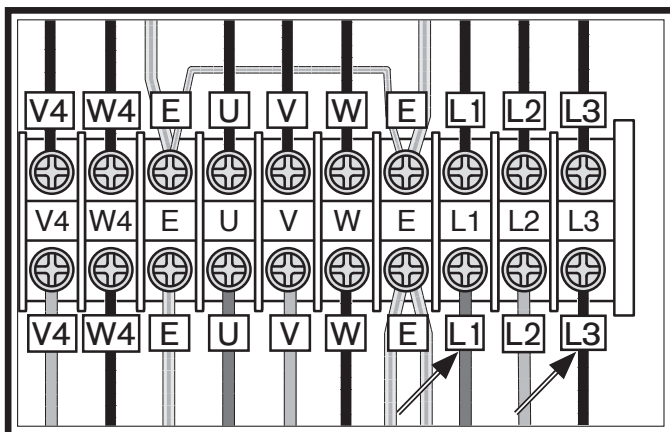

Figure 29. Location of L1 and L3 terminals.
11. Open electrical cabinet door, swap wires at L1 and L3 terminals, as shown in **Figure 29**, then close and lock electrical cabinet door, and connect machine to power.